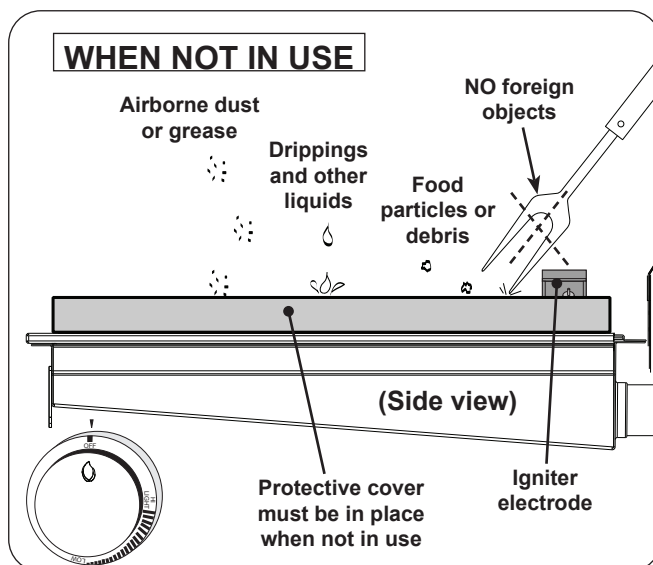

Fig. 37-2 Infrared burner - WHEN NOT IN USE
- When not in use, **always** cover the infrared burner with the stainless-steel cover. This protects the burner from drippings (from other cooking), water, airborne particles, and foreign objects (Fig. 37-2).
- Do not strike or scrape the ceramic portion of the burner as it may chip, crack, or break (Fig. 37-2).